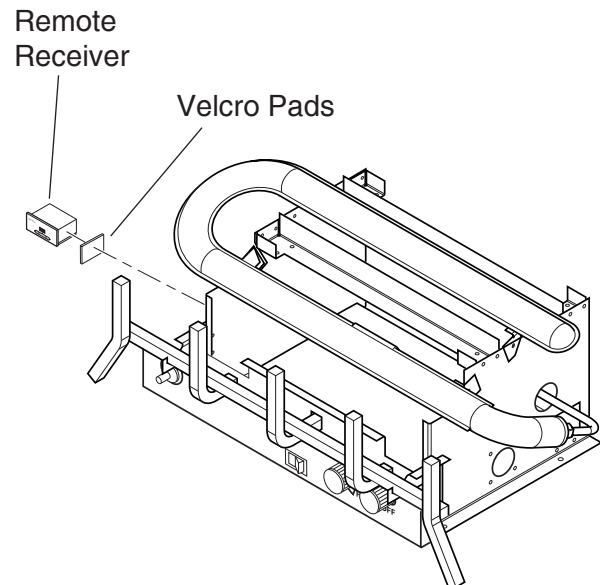

Figure 17 - Installing Remote Receiver
2. Stick velcro pads with self-adhesive backing to the right side of remote receiver and to the left side of the unit. See Figure 17.